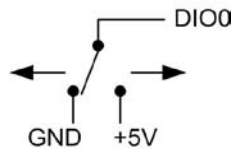

Figure 7. Schematic showing switch detection by digital channel DIO0
You can use the digital I/O terminals to detect the state of any TTL-level input. Refer to the schematic shown in Figure 7. If you set the switch to the +5 V input, DIO0 reads *TRUE* (1). If you move the switch to GND, DIO0 reads *FALSE* (0).